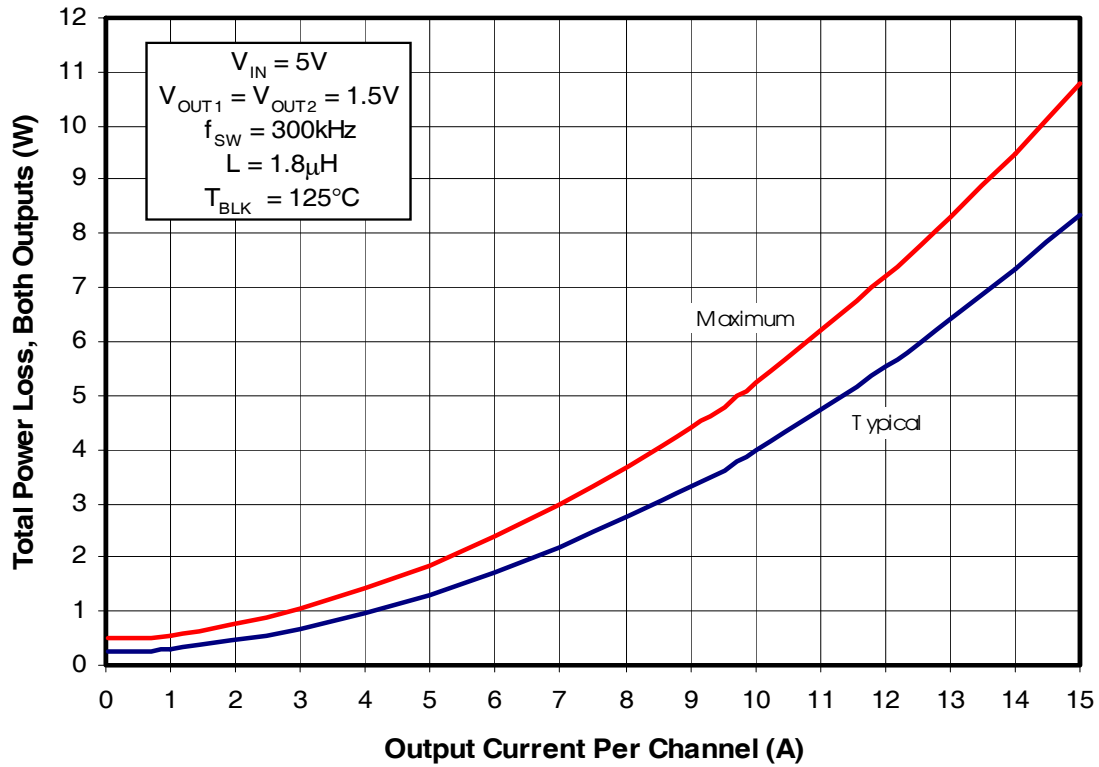
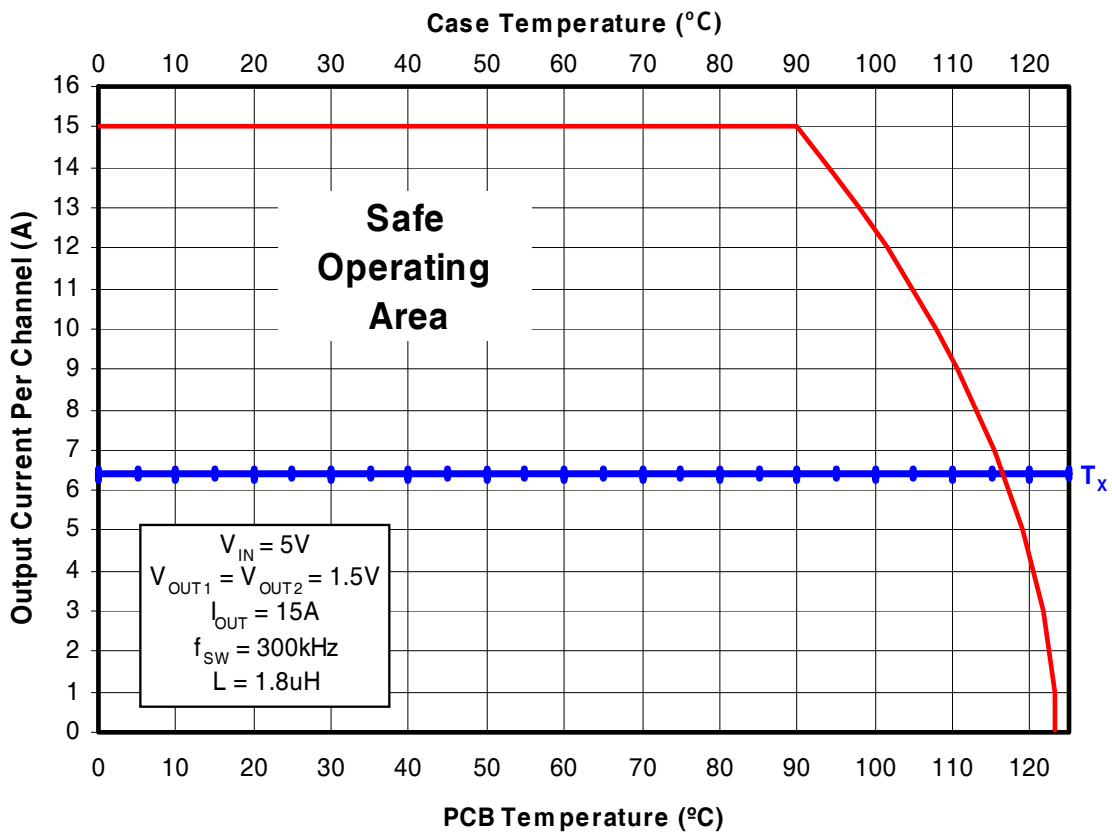
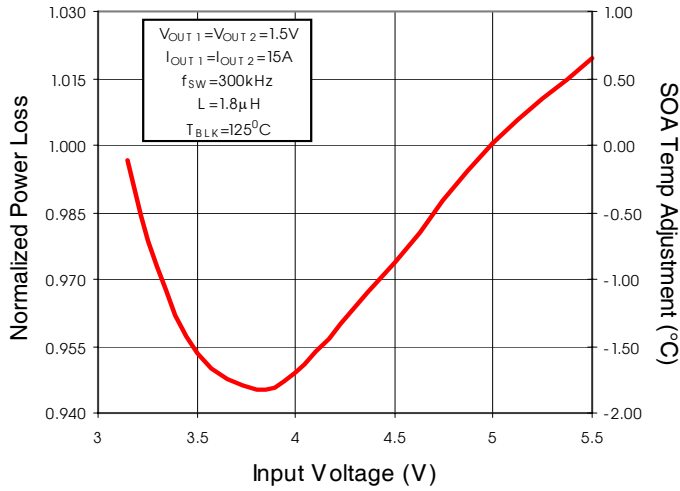

Fig. 2: Power Loss vs. Current
Fig. 3: Safe Operating Area (SOA) vs. T_{PCB} & T_{CASE}
Fig. 4: Normalized Power Loss vs. V_{IN}
To make adjustments to the power loss curves in Fig. 2, multiply the normalized value obtained from the curves in Figs. 4, 5, 6 or 7 by the value indicated on the power loss curve in Fig. 2. Remember that the power loss in Fig 2. is the power loss for 2 outputs operating with the same output voltage. If differing output voltages are used the initial power loss for each channel needs to be divided by 2. Then if multiple adjustments are required, multiply all of the normalized values together, then multiply that product by the value indicated on the power loss curve in Fig. 2. The resulting product is the final power loss based on all factors. See example no. 1.
To make adjustments to the SOA curve in Fig. 3, determine your maximum PCB Temp & Case Temp at the maximum operating current of each iP1201. Then, add the correction temperature from the normalized curves in Figs. 4, 5, 6 or 7 to the T_x axis intercept (see procedure no. 2 above) in Fig. 3. When multiple adjustments are required, add all of the temperatures together, then add the sum to the T_x axis intercept in Fig. 3. See example no. 2.
- Output1 (Fig. 2) Maximum power loss = $5.3W / 2 = 2.65W$
(Fig. 4) Normalized power loss for input voltage ≈ 0.97
- Output2 (Fig. 2) Maximum power loss = $8.25W / 2 = 4.13W$
- (Fig. 4) Normalized power loss for input voltage ≈ 0.97
- Output1 (Fig. 4) Normalized SOA Temperature for input voltage $\approx -1.0^{\circ}C$
- Output2 (Fig. 4) Normalized SOA Temperature for input voltage $\approx -1.0^{\circ}C$